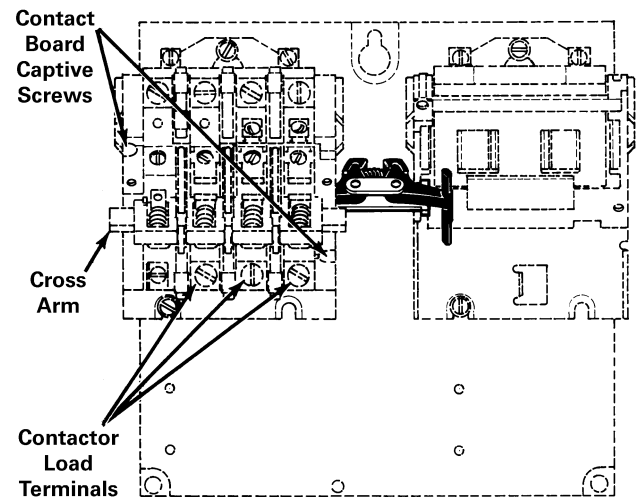

Figure 2
2. The overload relay must be removed from a starter to install the interlock. Tag and disconnect any wires at the overload relay terminals. Loosen the three screws at the contactor load terminals (Figure 2). Tilt overload relay slightly to disengage the slot in the overload relay mounting plate from the contactor base. Pull the overload relay from the contactor.